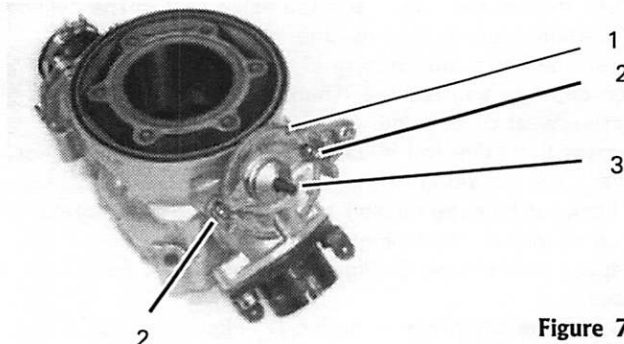

Figure 75
4. Install the valve rod housing (1, Figure 75) and secure it with its 2 Allen screws (2, Figure 75). Tighten the screws to 10 N.m (85 in.-lb.).
5. Move the valve rod (3, Figure 75) by hand to check for binding. If necessary, loosen the 2 Allen screws (2, Figure 75) and reposition the valve rod housing (1, Figure 75). Retighten the Allen screws as specified in Step 4.